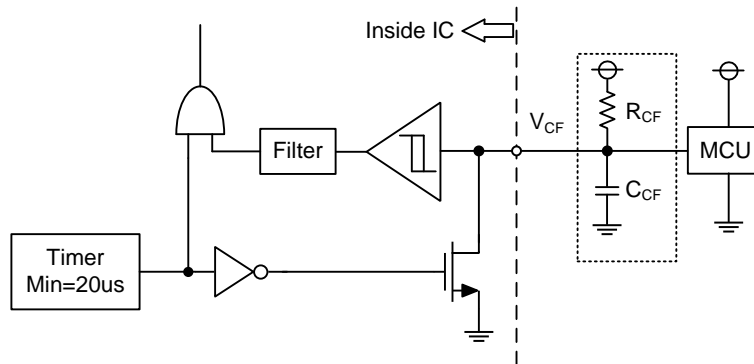

Figure 5. VCF Output Circuit
- (1) If the control GND is connected with the power GND by common broad pattern, it may cause malfunction by power GND fluctuation. It is recommended to connect the control GND and power GND at a single point (N1), near the terminal of the shunt resistor.
- (2) There are two COM pins in the IPM but it is recommended to only use the (15) COM pin to minimize SC detection noise.
- (3) A zener diode D1 (24V/1W) is recommended between each pair of control supply pins to prevent surge destruction.
- (4) Prevention of surge destruction can further be improved by placing the bus capacitor as close to pin P and N1 as possible. Generally a 0.1-0.22μF snubber capacitor C3 between the P-N1 terminals is recommended.
- (5) Selection of the R1\*C4 filter components for short-circuit protection is recommended to have tight tolerance, and is temperature-compensated type. The R1\*C4 time constant should be set such that SC current is shut down within 2μs; (typically 1.5-2μs). R1 and C4 should be placed as close as possible to the CSC pin. SC interrupting time may vary with layout patterns and components selection, therefore thorough evaluation in the system is necessary.
- (6) Tight tolerance and temperature-compensated components are also recommended when selecting the R2\*C5 filter for VOT. The R2\*C5 time constant should be set such that VOT is immune to noise. Recommended values of R2 and C5 are 2kΩ and 10nF.
- (7) To prevent malfunction, traces A, B, and C should be as short as possible.
- (8) It is recommended that all capacitors are mounted as close to the IPM as possible. (C1: electrolytic type with good temperature and frequency characteristics. C2: ceramic type with 0.1-2μF, good temperature, frequency and DC bias characteristics.)
- (9) Input drives are active-high. There is a minimum 3.5kΩ pull-down resistor in the input circuit of IC. To prevent malfunction, the layout to each input should be as short as possible. When using RC coupling circuit, make sure the input signal levels meet the required turn-on and turn-off threshold voltages.
- (10)  $V_{CF}$  output is open drain type. It should be pulled up to MCU or control power supply (max=  $5\pm 0.5V$ ), limiting the current ( $I_{CF}$ ) to no more than 1mA.  $I_{CF}$  is estimated roughly by the formula of control power supply voltage divided by the pull-up resistor R3. For example, if control supply is 5V, a 10kΩ (over 5kΩ) pull-up resistor R3 is recommended.
- (11) If only a pull-up resistor R3 of 10kΩ connected to  $V_{CF}$  pin, the fault output pulse width is fixed at minimum 20μs. If a capacitor C6 is connected with a pull-up resistor R3, the fault output pulse width can be controlled according to the resistor value and capacitor value. For the design guide, please refer to the Figure 5.
- (12) Direct drive of the IPM from the MCU is possible without having to use opto-coupler or isolation transformer.
- (13) The IPM may malfunction and erroneous operations may occur if high frequency noise is superimposed to the supply line. To avoid such problems, line ripple voltage is recommended to have  $dV/dt \leq \pm 1V/\mu s$ , and  $V_{ripple} \leq 2V_{p-p}$ .
- (14) It is not recommended to use the IPM to drive the same load in parallel with another IPM or inverter types.